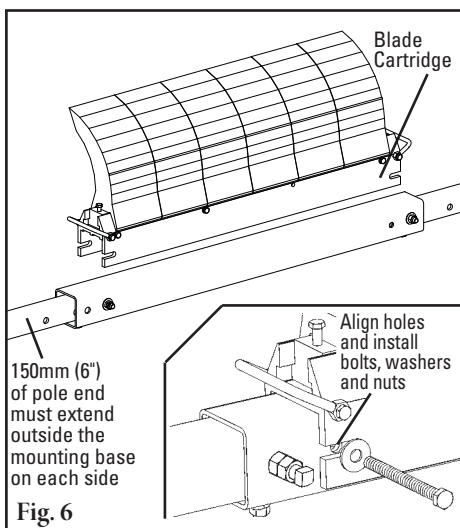

Fig. 6
6. **Install the blade cartridge.** Place the blade cartridge onto the center pole. Adjust the extender poles until the holes align with the holes in the center pole and lock the cartridge into place with the two bolts, washers and nuts (Fig. 6). NOTE: Be sure at least 6" of the extender pole extends out of the mounting base on each side for tensioner installation. Adjust the extender poles in the center pole if more or less length is needed.